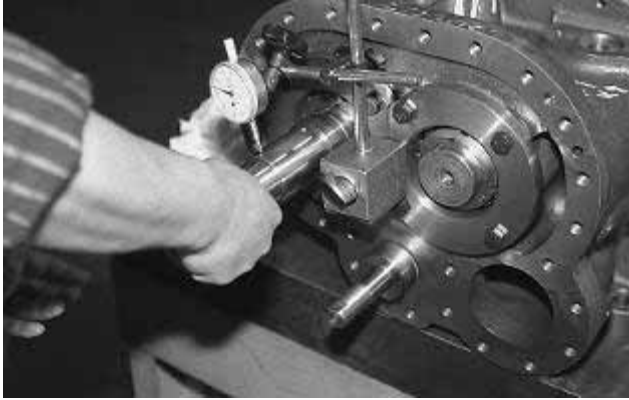

Fig. 3-100 Measuring Runout of Shaft
e) Check runout of the shaft by applying the dial indicator's probe to the mechanical seal portion of the male rotor and rotating the rotor(see Fig. 3-100).